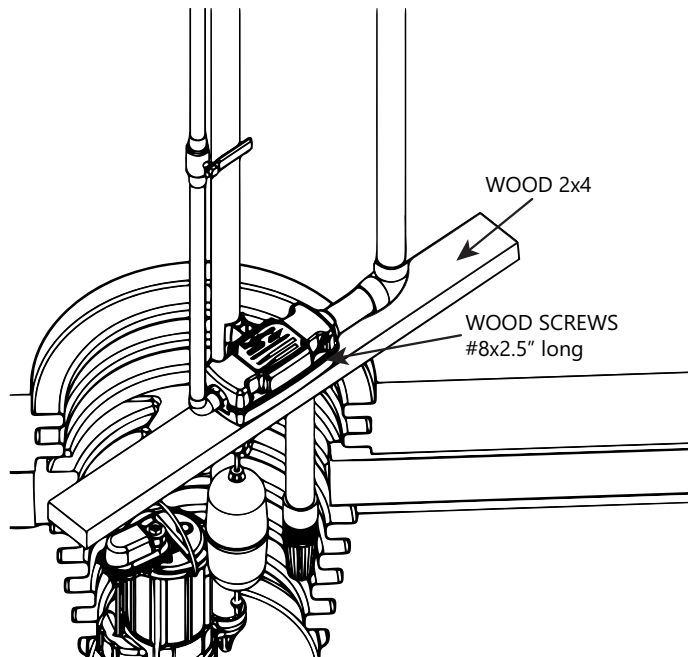
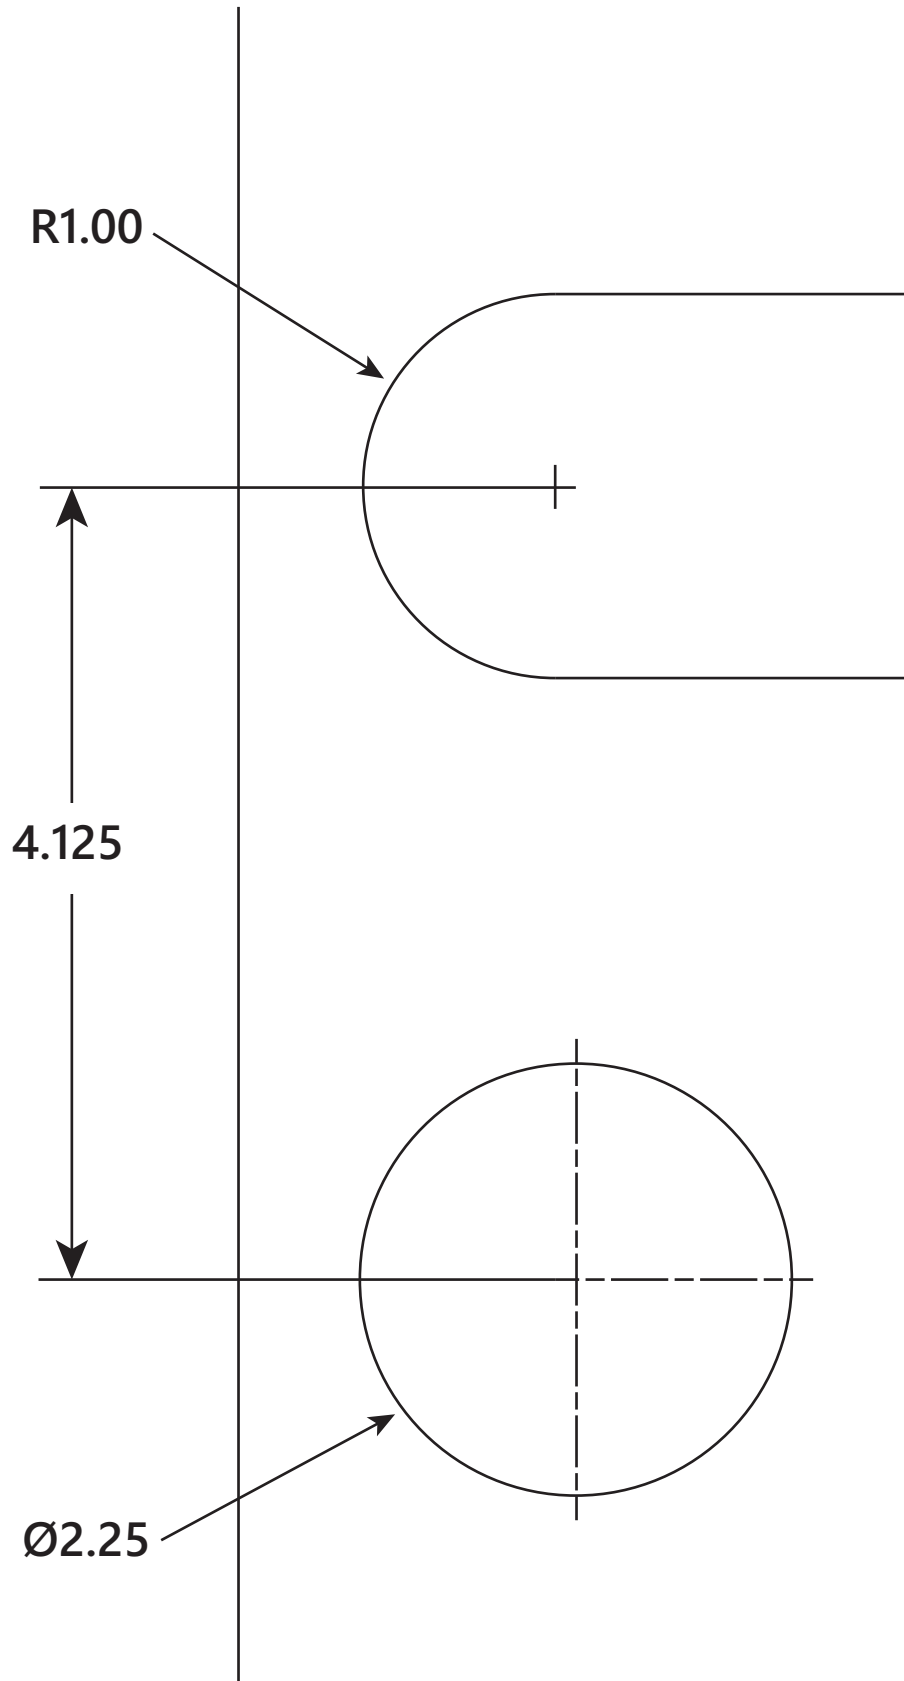

Figure 3. Alternate SumpJet Installation
Figure 4. SumpJet Hole Template
9. If sump cover is desired, it will be necessary to add additional holes and slots to make access for the SumpJet suction pipe and float rod. Refer to the template provided in Figure 4.
10. If the SumpJet cannot be mounted to the primary sump pump discharge pipe, a piece of wood may be used to mount the SumpJet. Cut holes as per Figure 4. There are four screw holes to fasten the SumpJet to the wood. Use #8 x 2.5" long wood screws. Refer to Figure 3.